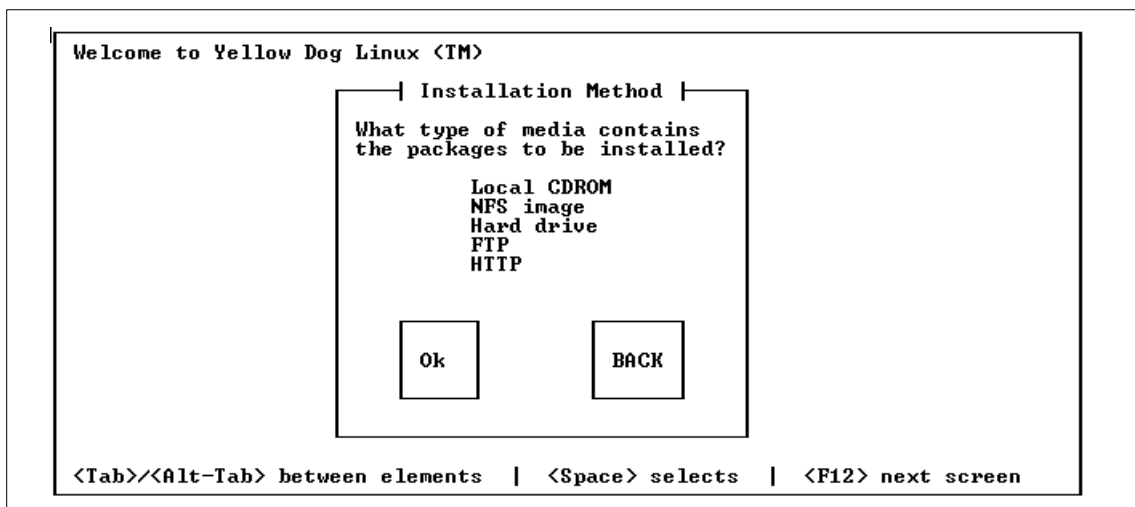
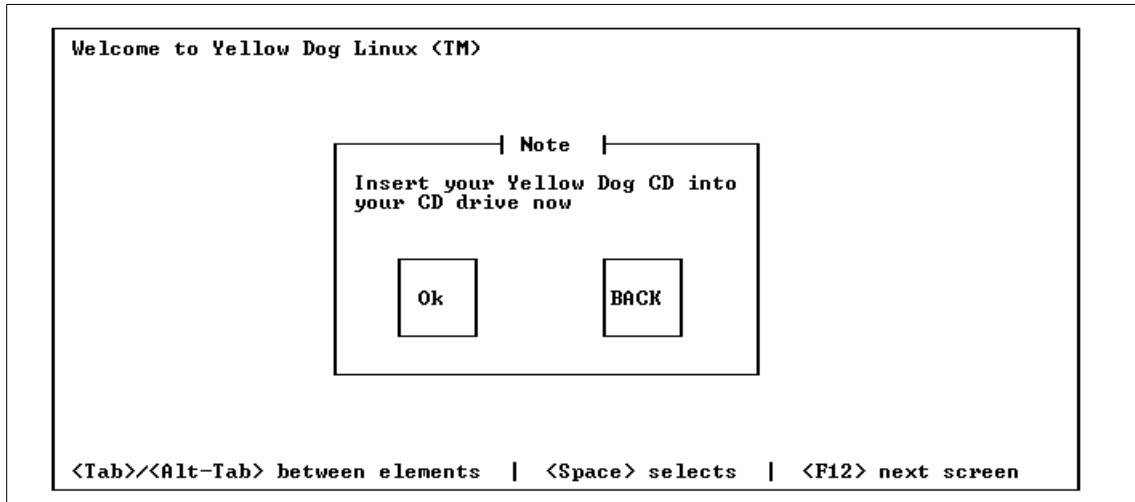

Figure 28. Installation Method - 1
Figure 29. Installation Method - 2
- 8. You can install from local CDROM or through the network (only integrated Ethernet). We recommend selecting **Local CDROM** (see Figure 28). After this selection, a panel shown in Figure 29 on page 163 will appear.